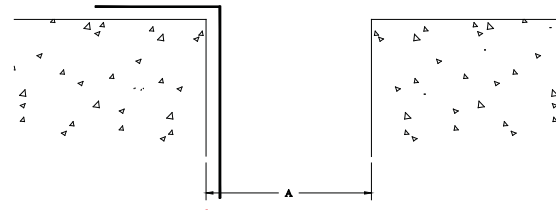

Figure 3
STEP 3. Select the water barrier, and place it into its installed position, pressing it firmly into the mastic applied in Step 2, see Figure 3. Ensure that the water barrier is properly aligned and positioned. Make the appropriate allowances for water expulsion at this time.